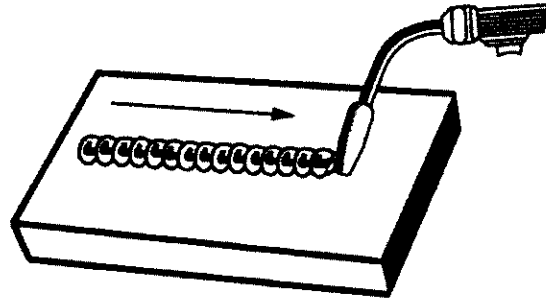

Figure 12. Stringer Bead
- 1. The STRINGER BEAD** (Figure 12) is formed by traveling with the gun in a straight line while keeping the wire and nozzle